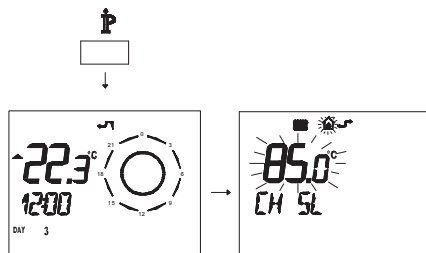

Fig. 7.22
- Press button **ⓘ** for more than 3 seconds to enter in **INFO** (Fig. 7.22) mode.